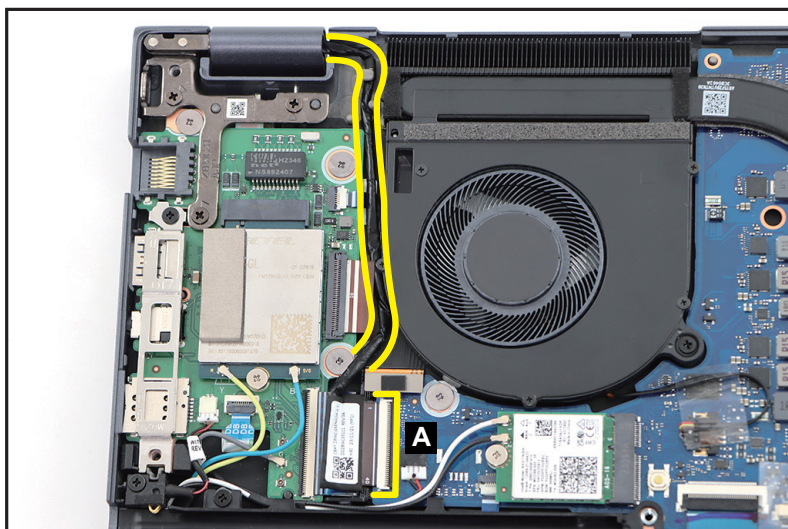

Figure 1-20. LCD Module Removal
1. Disconnect the sensor cable from the mainboard connector (A). Then unroute the cable from the cable guides as shown in Figure 1-20.